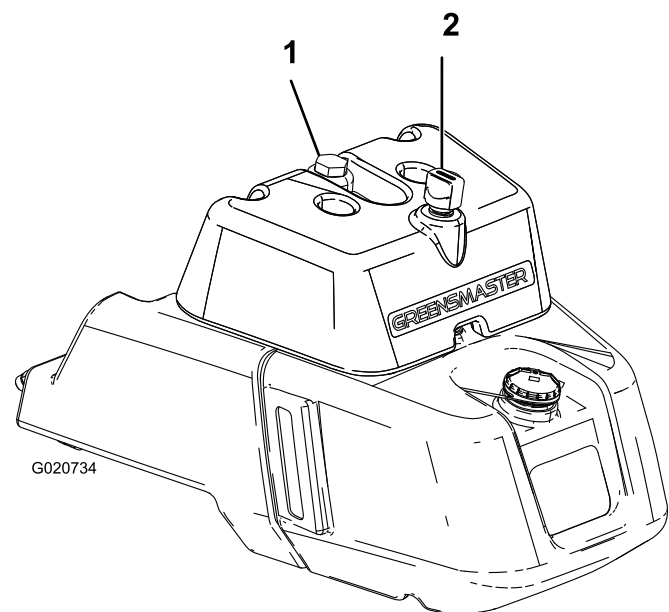

Figure 35
- If your tank has a sight window, check the oil level there (Figure 35) and proceed to step 5.